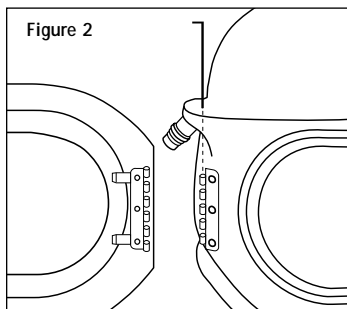

Figure 2
2. Secure the new door frame with a new hinge pin (bent end of pin on top) (figure 2).